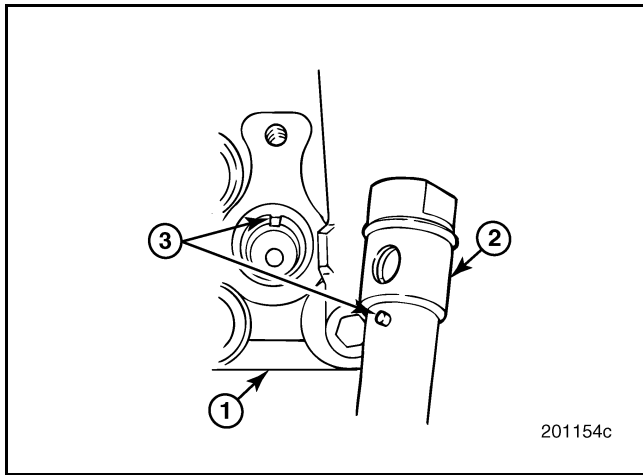

Figure 373 — Nozzle Holder Alignment
- Insert the nozzle holder in the nozzle holder sleeve. Be sure to align the locator pin in the nozzle holder with the notch in the holder sleeve to ensure inlet tube alignment. Refer to Figure 373.